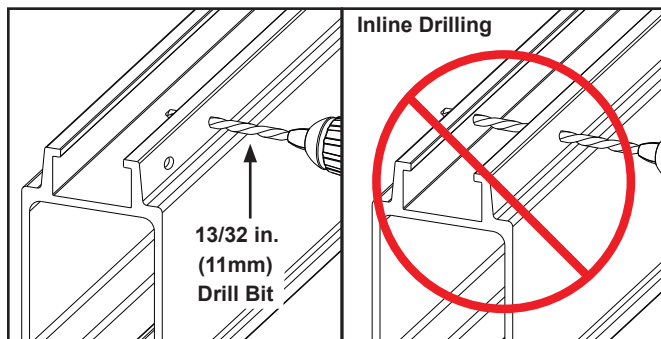

Figure 3-87
- Step 2. Drill two (2) holes using 13/32 in (11 mm) drill bit. Do not attempt to drill holes in-line. See Figure 3-87.